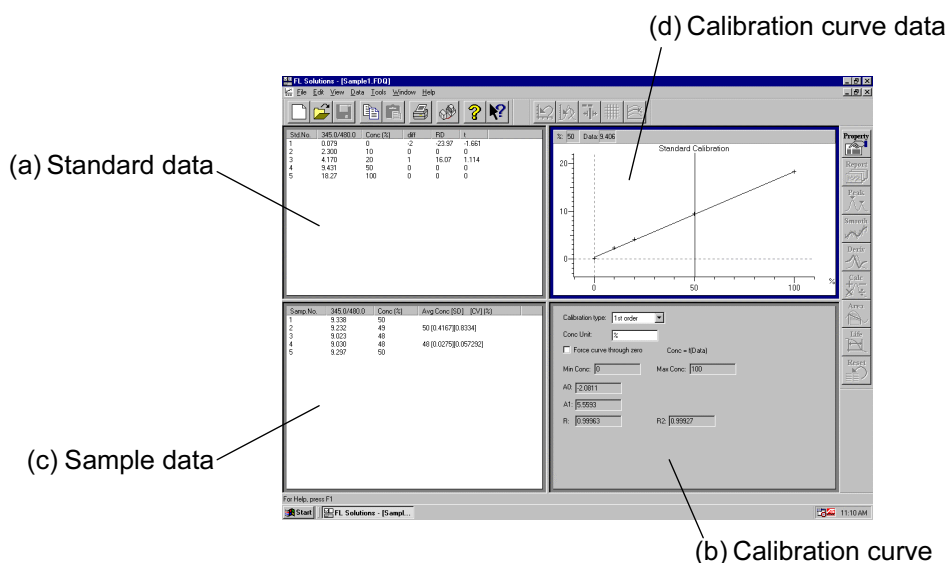

Fig. 4-25 Data Processing Window (photometry)
- (7) For conducting a blank measurement, click the **Blank** button.
- (8) Data is saved on completion of measurement. When its file is opened, a data processing window shown in Fig. 4-25 appears.
- (1) Select the Print command from the File menu. Or click the  print button on the toolbar. The field active on the data processing window (e.g., (b) in Fig. 4-25) will be printed. What is displayed by clicking the Print Preview command in the File menu will be printed.